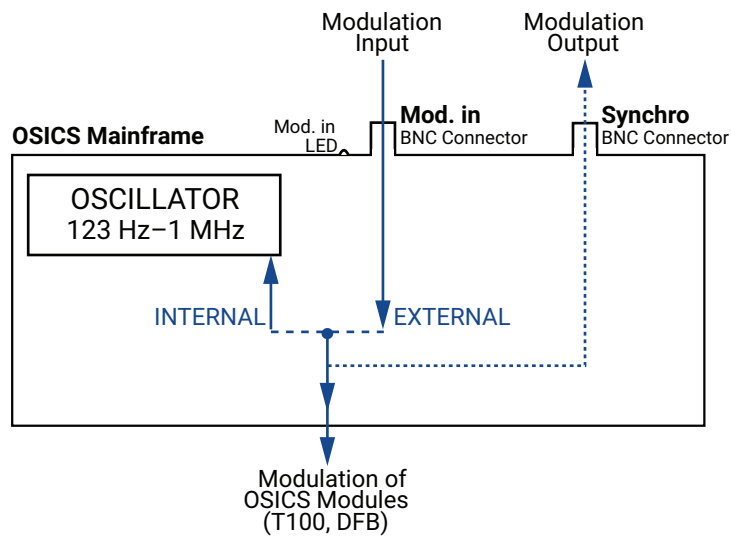

Figure 15: Mainframe Modulation Scheme
This modulation setting uses the OSICS Mainframe's built-in internal oscillator as a source of TTL-level modulated signals (see *Figure 15, p. 40*). The main purpose of this setting is to provide simultaneous and synchronous modulation to several modules installed in the OSICS Mainframe, or to an external device connected to the OSICS Mainframe **Synchro** output connector.
**Subject** External digital-modulation is achieved by applying a digital signal to the BNC **Mod. In** connector located on the OSICS Mainframe rear panel (see *Figure 15, p. 40*). This allows all the modules (or an external device connected to the OSICS Mainframe **Synchro** output connector) to be modulated in a synchronous way by means of an external source. The OSICS Mainframe distributes the external modulated-signal to all T100 and DFB installed modules in order to synchronize all modules with a single modulated signal, amplitude, and frequency.